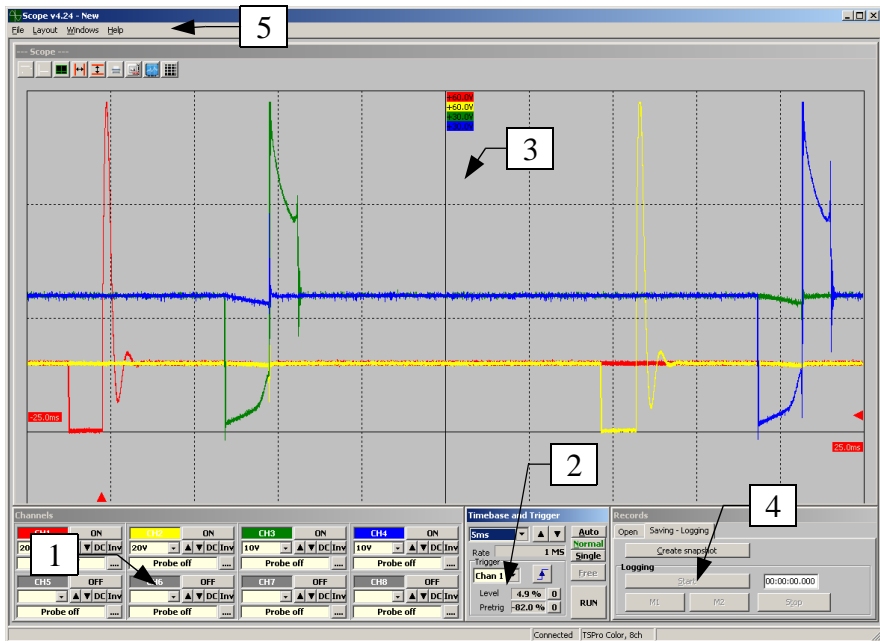

Figure 7.2
After you start the TSPro PCCenter program, the main window of the MainBar application appears (Fig. 7.1). Click the encircled icon to run the Scope module. The workspace of the Scope application can be seen on the next page (Figure 7.2).
Now we will describe features and parameters of individual windows displayed on the Figure 7.2.
1. *Channel number* : Here you can see to which channel this window corresponds; the color of this icon is the same as the waveform in the main window (Figure 7.2).
Setting of time resolution (the section of time that is visible in the window 3 Figure 7.2) and parameters of measurement starting (triggering), is done here. Those parameters are common for all channels.
10. *Start/stop oscilloscope (RUN)* : This button turns measuring on or off on all channels simultaneously. Last measured waveform remains displayed on the main screen (Figure 7.2 - 3). A RUN sign on the button indicates that the measurement is running..
This window (Figure 7.2 - 3) is used for displaying waveforms of measured signals and for working with them - zooming, time and voltage measuring, averaging, comparing, print etc.
Another very useful function is Data recording. This function enables you to record and view measured waveforms. You can control this function using the Records window (Figure 7.2 - 4).